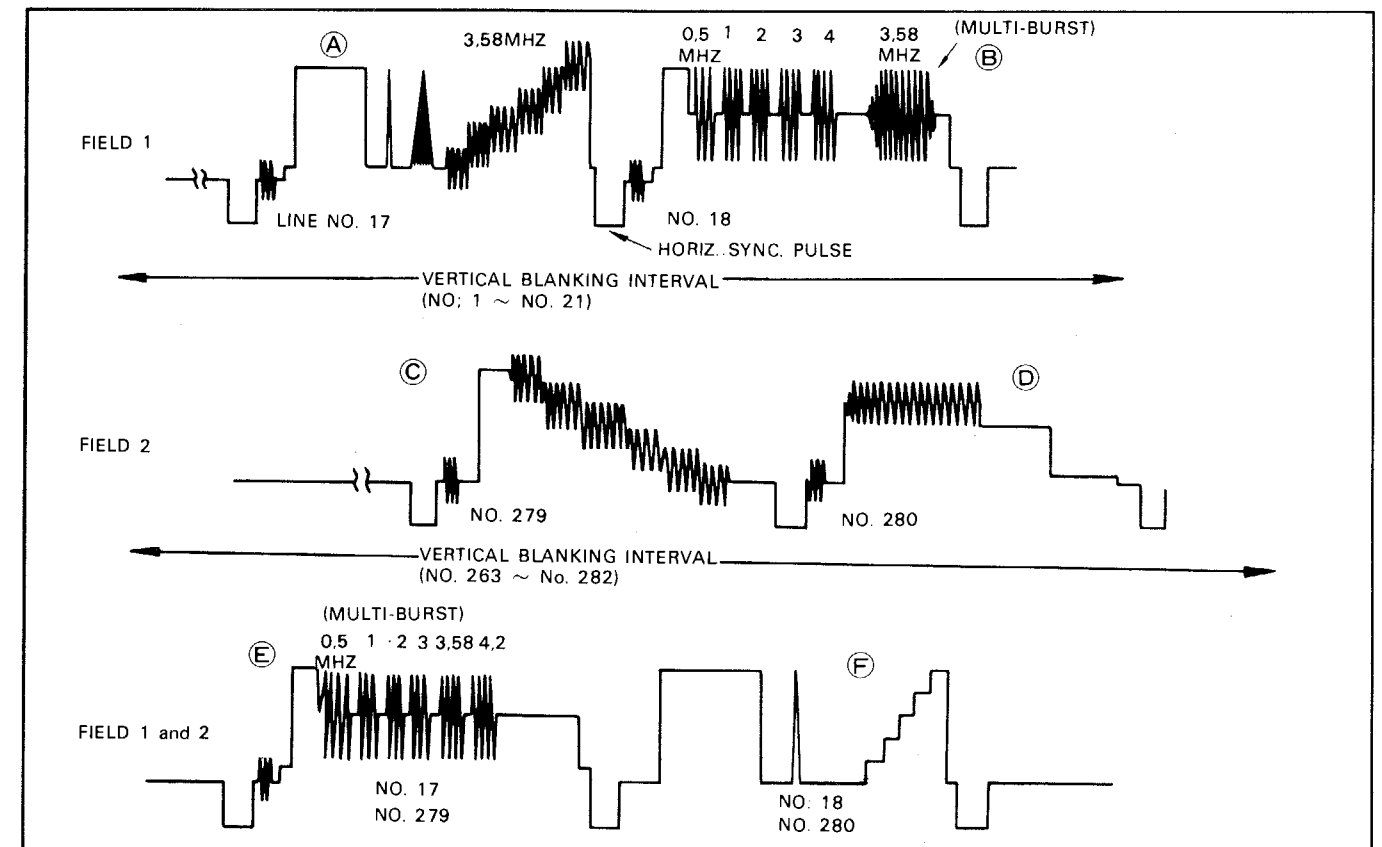

Fig. 11 VITS signal, Fields 1 and 2
Many television servicing procedures can be performed using single-trace operation. These are outlined later in the application section covering single-trace operation. One of these procedures, viewing the multi-burst signal in the VITS (vertical interval test signal), can be accomplished more effectively using a dual-trace oscilloscope. The VITS signal is specifically used for characteristic checks of the transmission system of a broadcast station or a network including repeater stations or for changeover of transmission system. In many cases, this signal does not appear in the normal video signals. Even when it is included in the signal, the method of inserting the information differs depending on the broadcast station. Also, the VITS information in Field 1 (1st interlaced scanning) and Field 2 (2nd interlaced scanning) are different in many cases. Examples of VITS signals are shown in Fig. 11.
section (line 18) in Fig. 11 begins with a white reference signal, followed by sine wave frequencies of 0.5 MHz, 1.0 MHz, 2 MHz, 3 MHz, 4.0 MHz and 3.58 MHz. This sequence of frequencies is called a "multi-burst" which is very useful.
9. Set the SWEEP TIME/DIV control to the 0.1ms/div position to expand the display. The VITS information will appear toward the right hand portion of the expanded waveform displays. The waveform information on each trace may appear as shown in Fig. 11. Because there is no provision for synchronizing the oscilloscope display to either of the two fields which comprise a complete vertical frame, it cannot be predicted which field display will appear on CH1 or CH2.
10. Pull the ◀▶ POSITION control outward to obtain an additional X5 magnification. Rotate the control moving the trace to the left until the expanded VITS information appears as shown in Fig. 11. Because of the low repetition rate and the high sweep speed combination, the brightness level of the signal displays will be reduced.